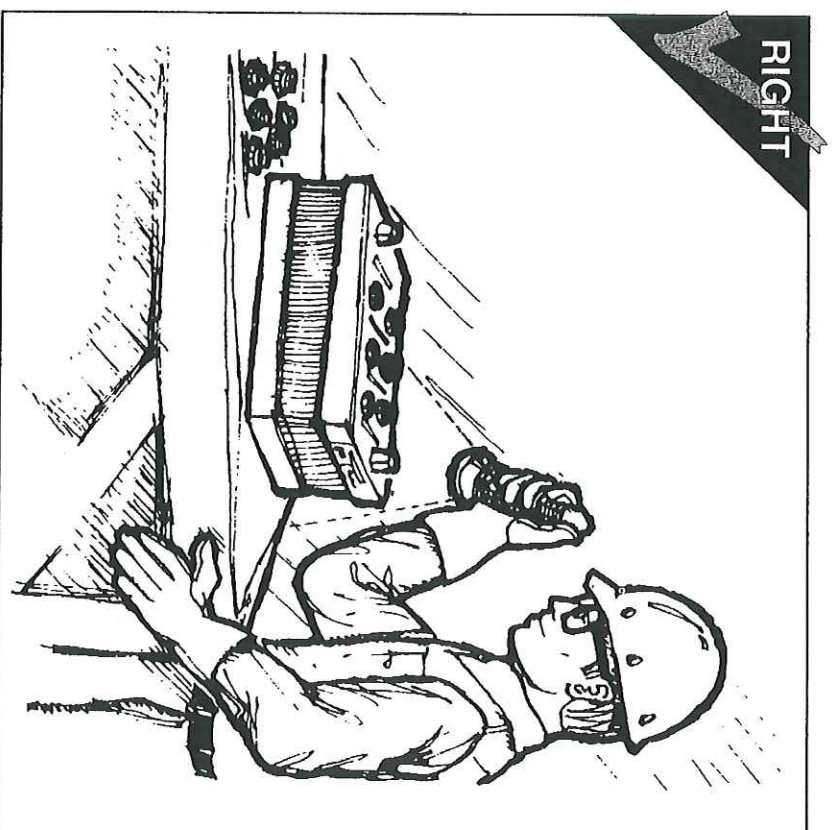

FIG. 65
- **Use a flashlight** to check the electrolyte level. Never use a flame. (FIG. 65)